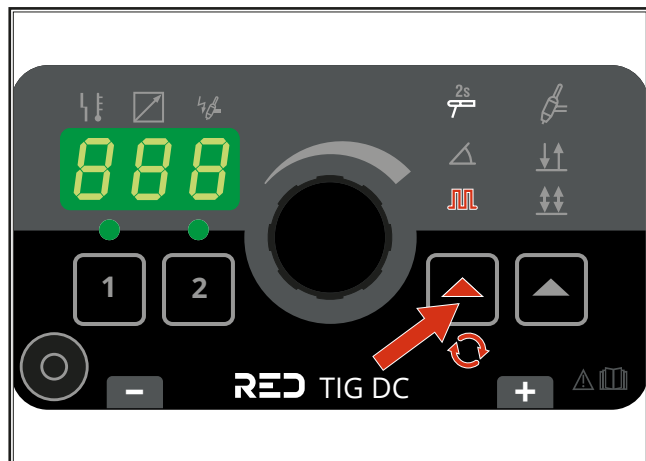

Fig. 11: Switching on the pulses
- If the Pulse function is desired, switch it on as shown in Fig. 11 is shown.